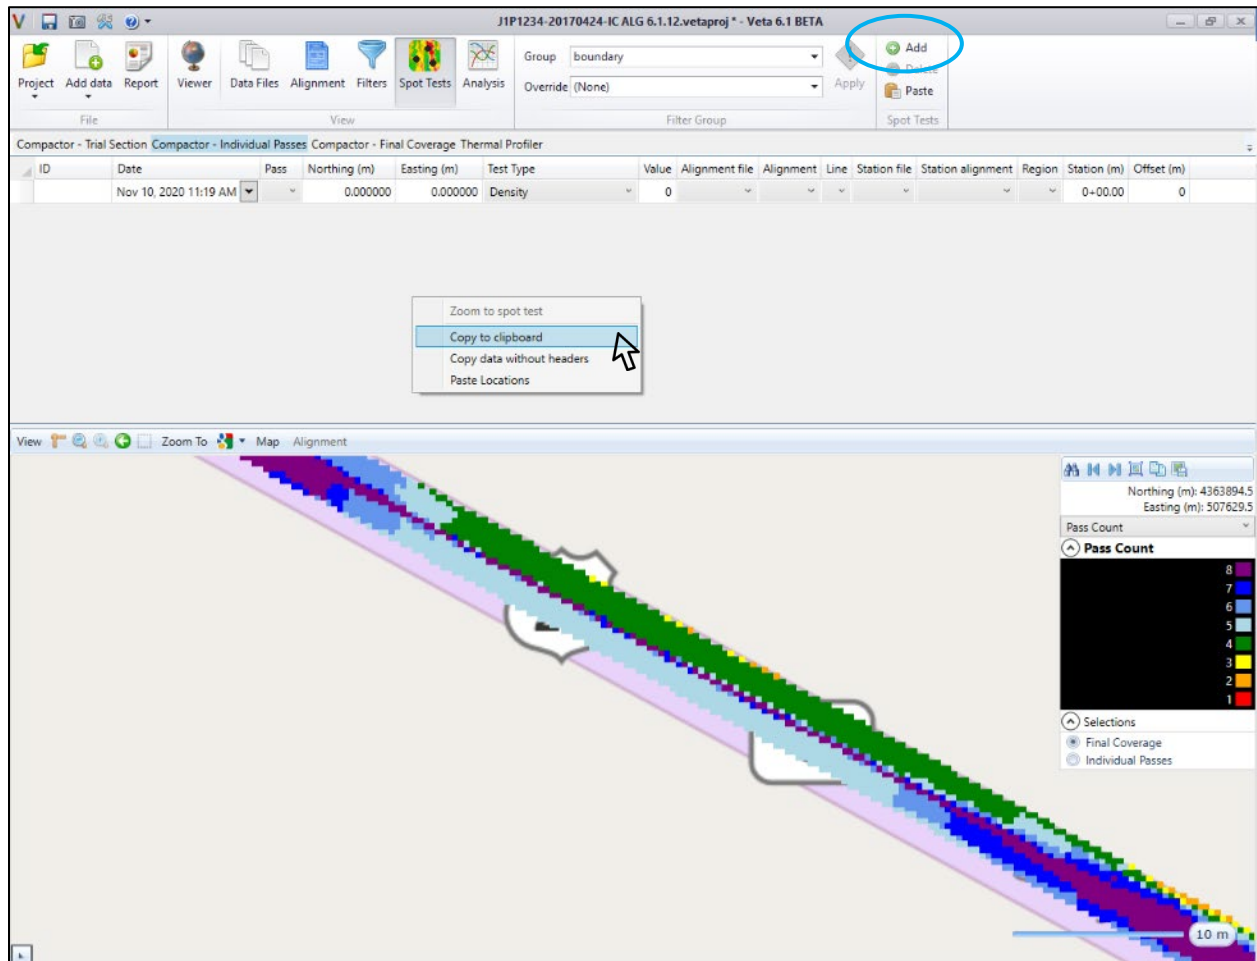

Figure 77. Adding a spot test manually using the add button and copying the data to the clipboard.
Step 1. Use the green button to add a spot test in Veta, as shown in Figure 77. Note that the date is automatically populated.
Step 2. Copy the data to the clipboard by right-clicking inside the spot test box, as illustrated in Figure 77.